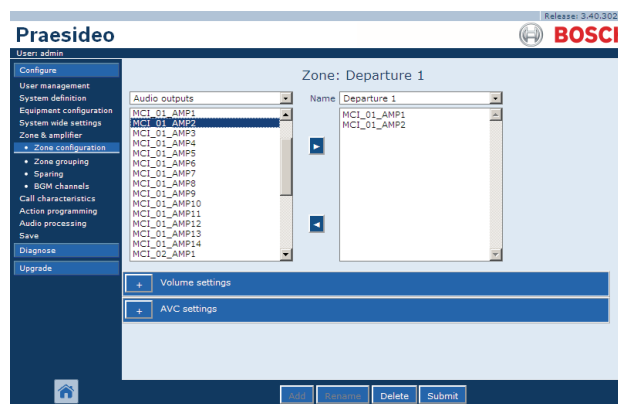

figure 46.3: Add zone, step 1
- 1 Go to *Configure > Zone & amplifier > Zone configuration*. A screen similar to the one in figure 46.3 appears in the main frame of the web interface.